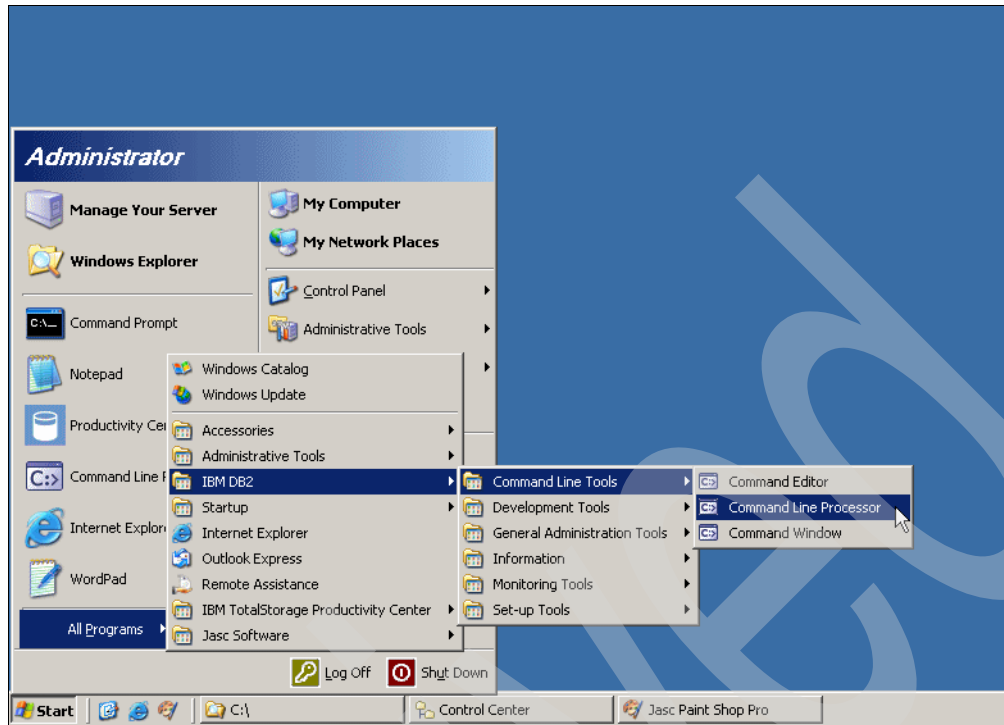

Figure 3-10 Launch a DB2 command line processor
4. Launch a DB2 command line processor as shown in Figure 3-10 on page 79 and issue the commands in the command line processor.